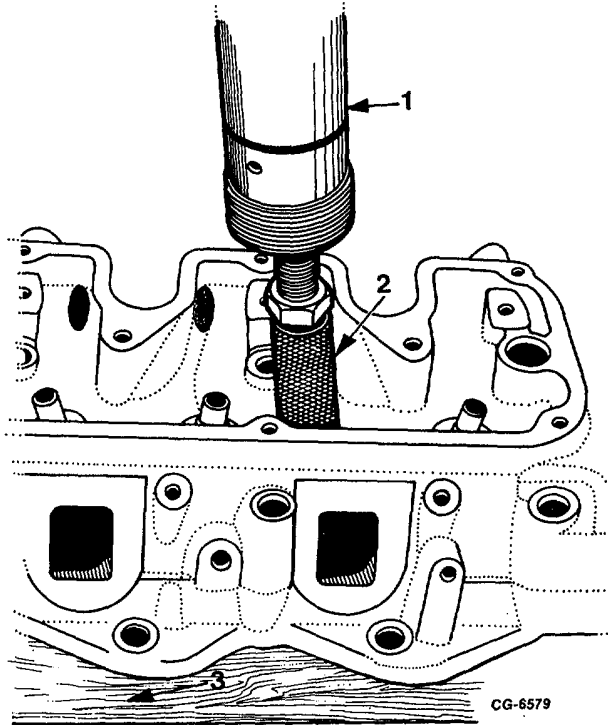

Fig. 116 Installing Valve Guide
5. Insert top end of valve guide into installer tool. Lubricate O.D. of valve guide with a commercial press-fit lubricant. Press valve guide into cylinder head (Figure 116) until installer tool rests firmly on top of head, thus obtaining proper valve guide height.